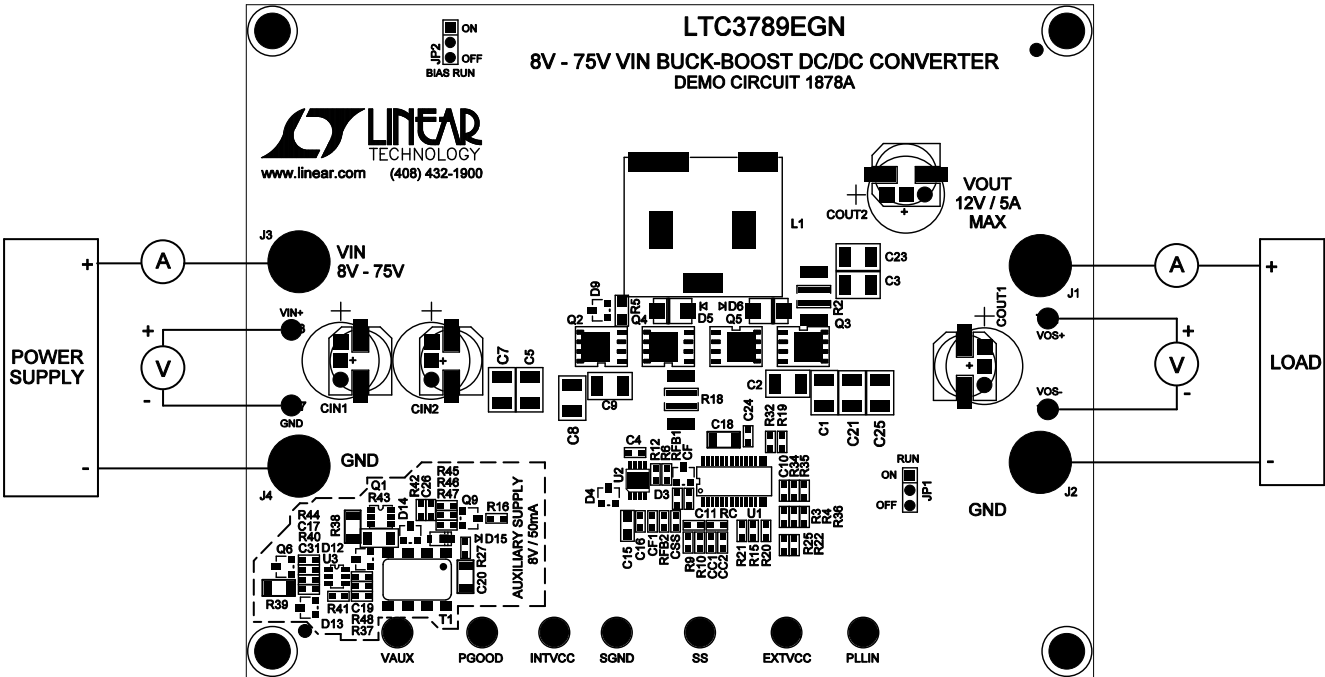

Figure 1. Proper Measurement Equipment Setup
Demonstration circuit 1878A is easy to set up to evaluate the performance of the LTC3789EGN. Please refer to Figure 1 for proper measurement equipment setup and follow the procedure below.
1. With power off, connect the input supply, load and meters as shown in Figure 1. Preset the load to 0A and V_{IN} supply to 0V.